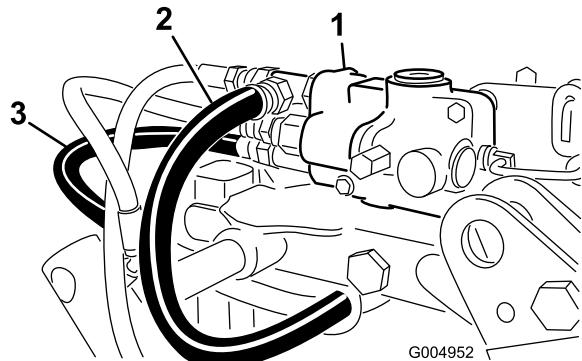

Figure 12
8. Route and connect the hydraulic pressure and tank hoses to the valve (Figure 12).